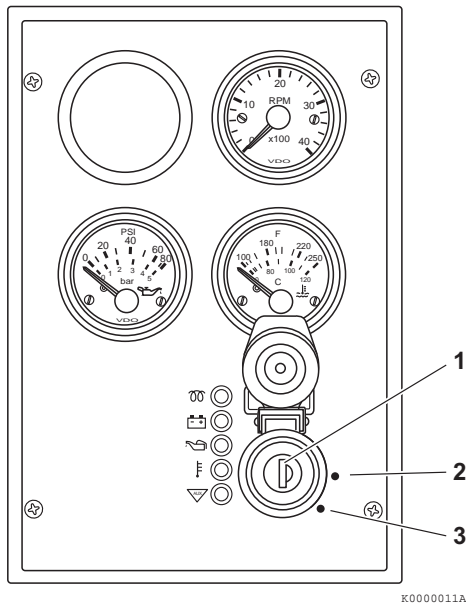
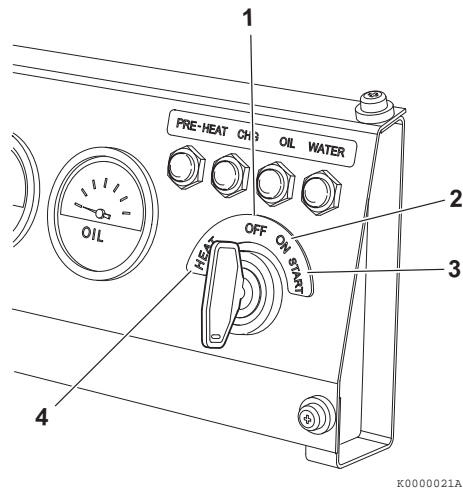

Figure 12
Figure 13
The key switch for the operator's console illustrated in **Figure 12** has three positions - OFF, ON, START and HEAT.
OFF (key straight up and down) (**Figure 12, (1)**) and (**Figure 13, (1)**) - When you turn the key to this position the engine shuts down. Electric current to the gauges and indicators is shut off. You can insert and remove the key in this position.
ON (**Figure 12, (2)**) and (**Figure 13, (2)**) - This is the position the key will be in when the engine is running. When the engine is not running, use this position to energize the gauges, indicators, electric fuel pump and auxiliary devices.
START (**Figure 12, (3)**) and (**Figure 13, (3)**) - Turn the key to this position to start the engine. As soon as the engine starts, release the key and it will automatically return to the ON position. Some key switches may be equipped with a feature that prevents you from turning the key to the START position while the engine is running. When operating a key switch with this feature, you cannot turn the key to the START position without first returning the key to the OFF position.
The key switch for the operator's console illustrated in **Figure 13** has four positions - OFF, ON, START, and HEAT.
HEAT (Figure 13, (4)) - You must turn the key to the HEAT position to activate the glow plug. The indicator will flash for several seconds when you turn the key to HEAT. You can turn the key to START when the indicator goes out.